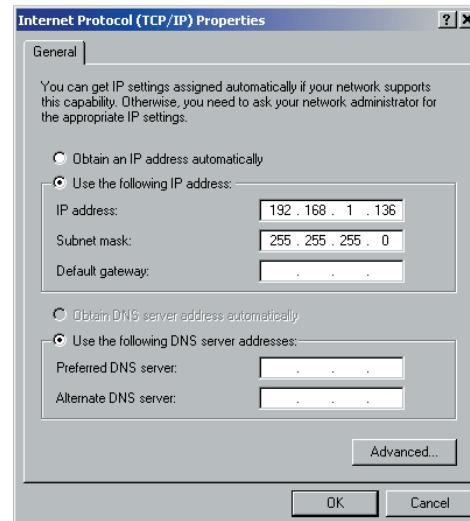

Figure 1-6. Internet Protocol (TCP/IP) Properties Screen
Step 4: Change/select the radio button to “Use the following IP address,” then enter **192.168.1.136** (Figure 1-6). Enter the following subnet mask number **255.255.255.0** (Figure 1-6).